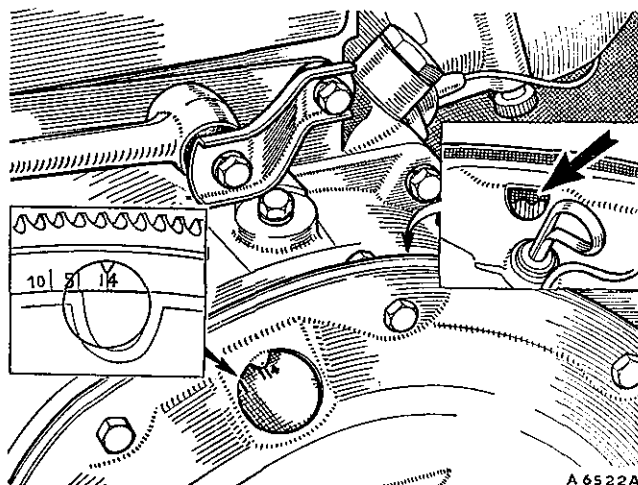

Fig. Ba.1
- (1) Follow the instructions given in Section B.2 with the following exceptions.
- (2) To rotate the crankshaft, insert a screwdriver through the aperture (adjacent to the oil dipstick) on the converter housing, and turn the starter ring gear in the direction of engine rotation to the position described in Section B.2, item (5).
- (3) The three timing marks can be seen on the converter (Fig. Ba.1) after removal of the rubber grommet on the converter end cover.